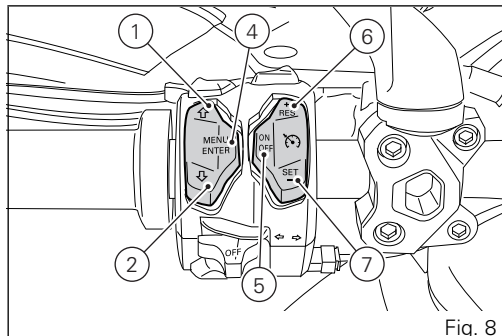

Fig. 8
6) CRUISE CONTROL BUTTON - RES (Resume) / + (more) (Fig. 8)
7) CRUISE CONTROL BUTTON - SET (Setup) / - (less) (Fig. 8)